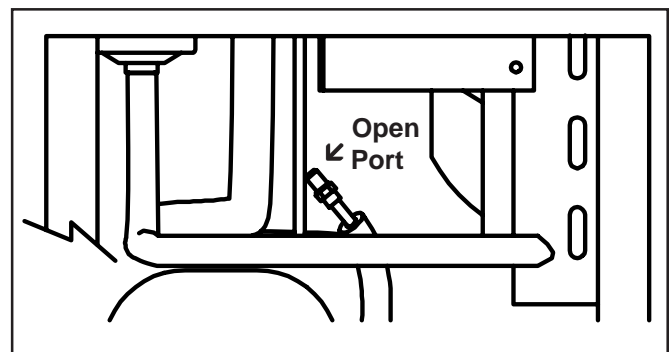

Figure 45. Install Compressor
7. Leaving a port open to prevent pressure build-up, braze the suction line and discharge line to the compressor (Fig.45).